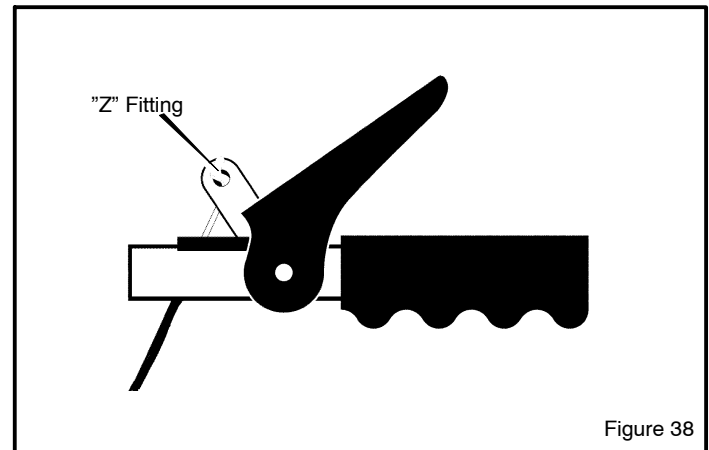

Figure 38
To check for correct adjustment, unhook "Z" fitting at clutch lever (see Figure 38)
4. Disconnect the **“Z” fitting** from the **drive lever** (see Figure 38).
10. Install the **“Z” hook** to the **traction drive lever** (see Figure 38).